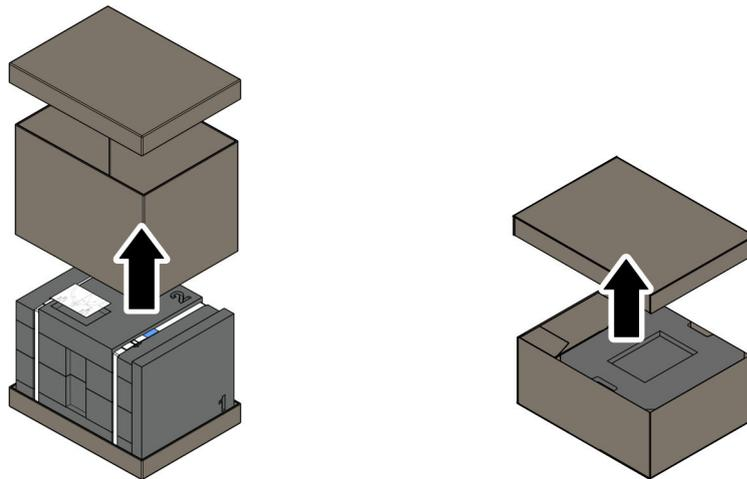

Fig. 43 Removing the outer packaging (example)
01. Remove the outer packaging of the boxes for the robot and for the robot controller Fig. 43.